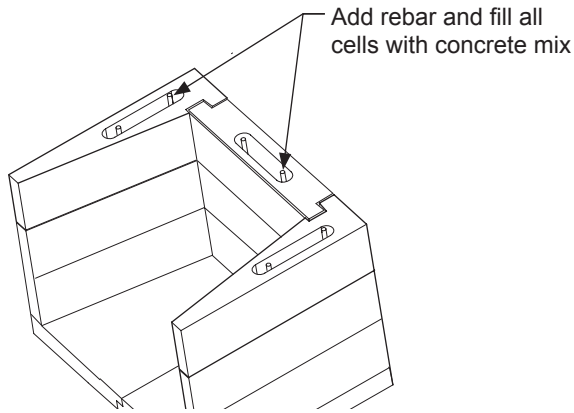
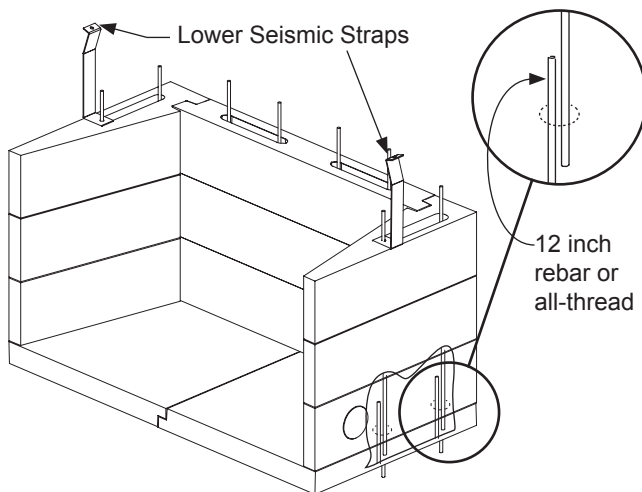

Figure 41- Inserting Rebar and adding Ready Mix Concrete
Figure 42 - Attaching Lower Seismic Straps
7) Insert 28" long rebar (8 total) vertically through the cells, into the holes in the hearth, adjacent to the rebar and/or all-thread sticking up from the hearth (Figure 42). Mix approximately 2 cu. ft. of Ready-Mix Concrete and fill all cells in walls and rear of firebox completely (Figure 41).
8) Attach Lower Seismic Straps to rebar closest to the front as shown in Figure 42.